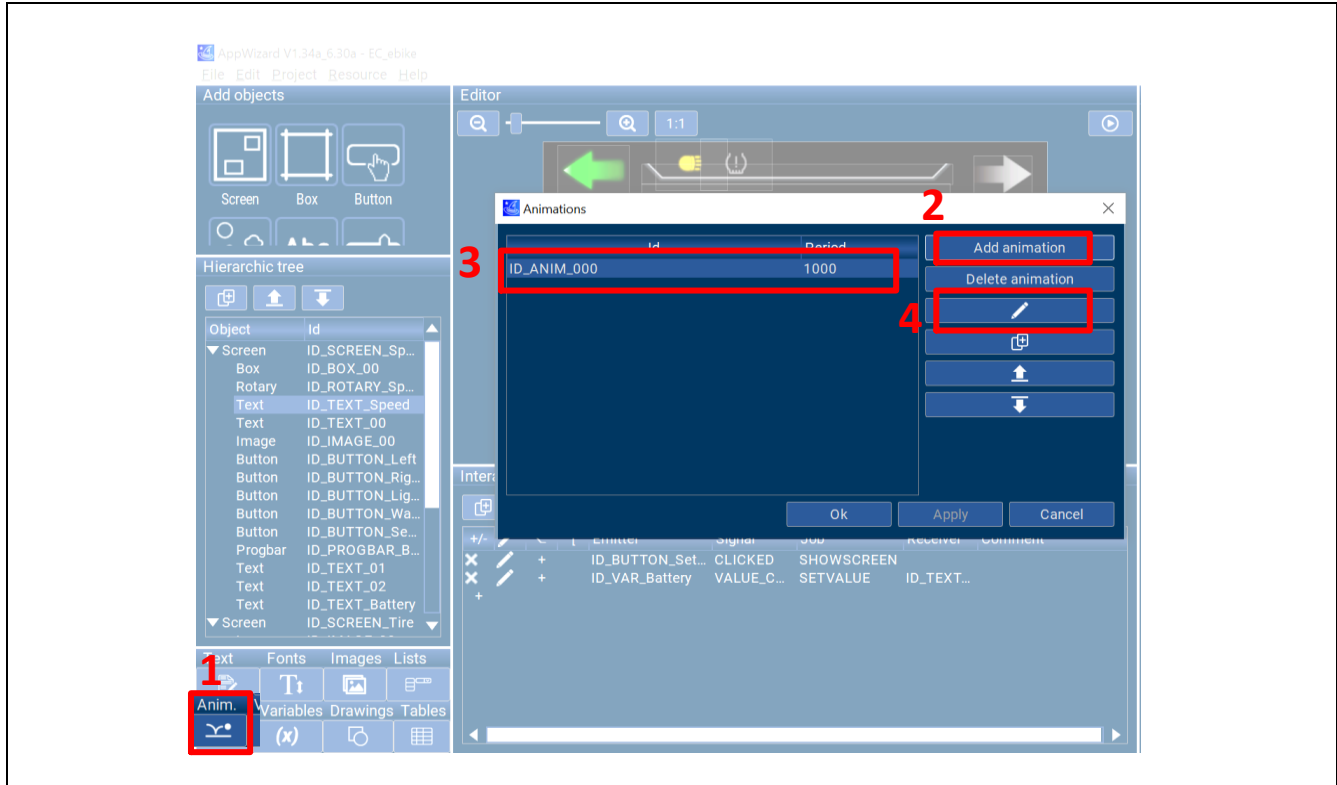

Figure 1-60 Animation Setting
- 4) Use the Animation feature to simulate the changes in the speedometer. Follow the steps shown in Figure 1-60 to Figure 1-63 to set up the automatic change of the speed value. Then, refer to Figure 1-64 to configure the rotation of the speedometer according to the speed value.